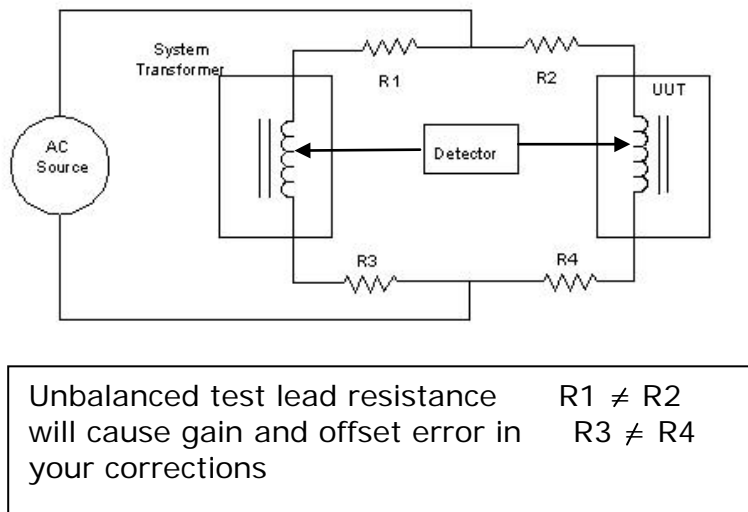

Figure 8-8. System Offset and Gain Errors Due to Unbalanced Lead Resistance.
- Unbalanced resistance in the test leads between the ratio bridges and the AC source. See Figure 8-8.